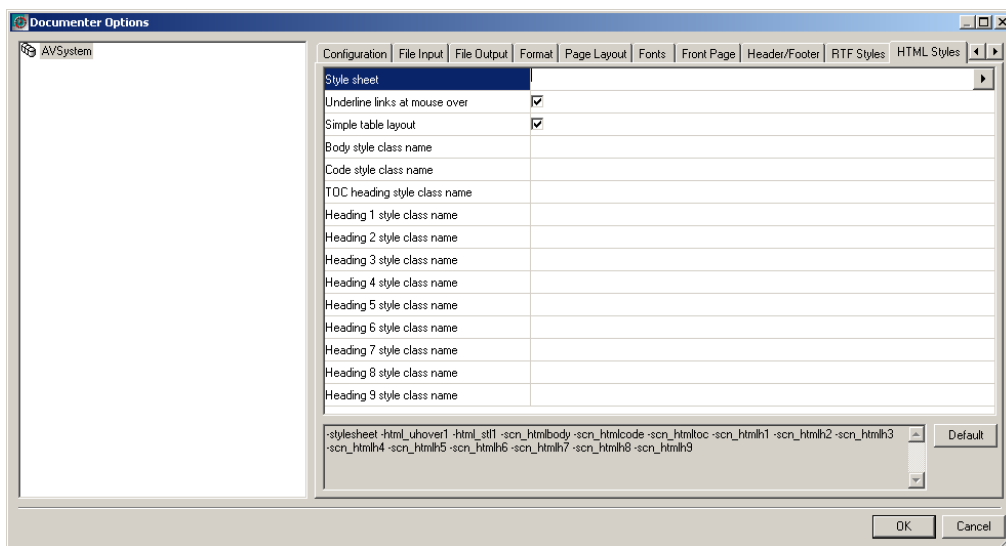

Figure 194: Documenter Options dialog box, HTML Styles tab
- 1 Open the Documenter Options dialog box (as described in *General*, page 261), and click the HTML Styles tab. See *Figure 194*, page 272.